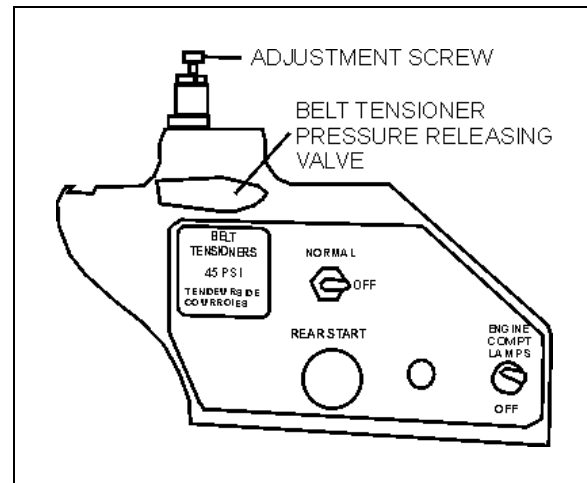

FIGURE 10: AIR PRESSURE REGULATOR
2. Access this valve by tearing out the finishing panel, which holds the controls in place (Fig. 10).